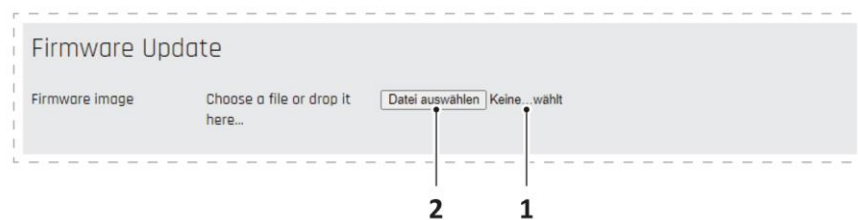

Figure 42 "Configuration" screen, "Firmware Update" section
2. Click on the browse button (Figure 42/2).
- The file is uploaded and its name is displayed in the file name field (Figure 42/1).